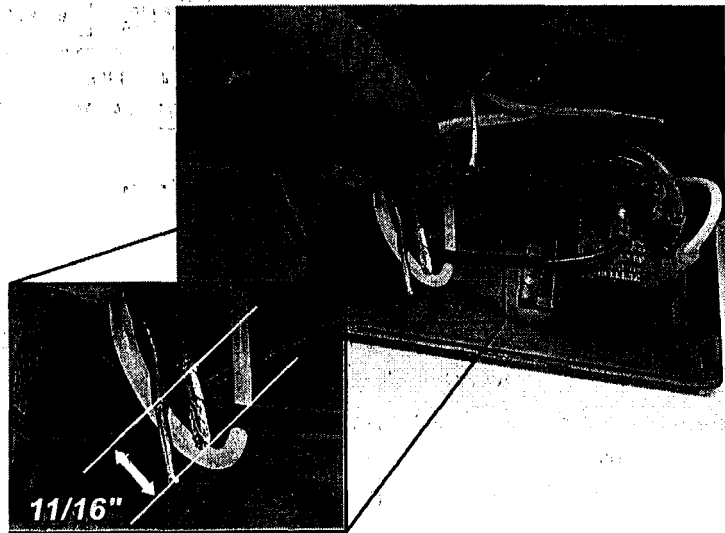

Fig. 4
9. Re-strip each wire to 11/16-inch long (Fig. 4).
10. Hold the white 120-volt wires to be spliced together parallel with the stripped ends even. Apply the wire nut and twist on until tight (Fig 4).
11. Hold the black 120-volt wires to be spliced together parallel with the stripped ends even. Apply the wire nut and twist on until tight (Fig 4).
12. Hold the green and bare copper 120-volt wires to be spliced together parallel with the stripped ends even. Apply the wire nut and twist on until tight (Fig 4).